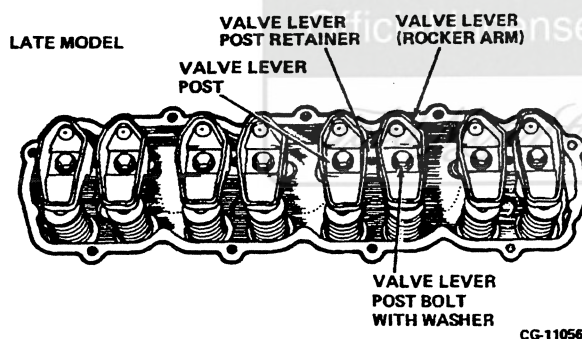

Figure 3.7. Valve Lever Assembly
2. Remove valve rocker arm post mounting bolts, Figure 3.7. Loosen each pair of bolts evenly.